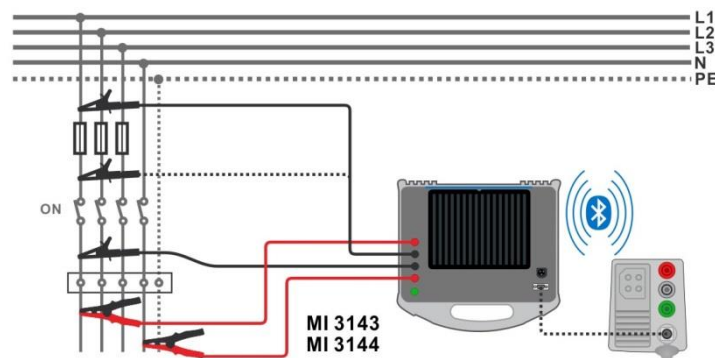

Figure 7.65: High Current resistance measurement
- ▶ Connect test leads to the object under test. See Figure 7.65.